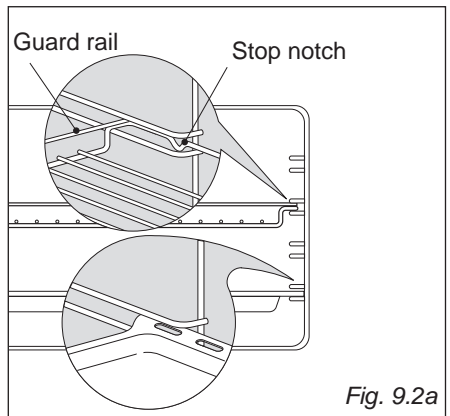

Fig. 9.2a
In the models with catalytic panels supplied, interpose the catalytic panels "A" with the arrow up (fig. 9.2a). **Models with rotisserie:** The catalytic panel with the hole for the rotisserie must be positioned on the right oven wall. **DO NOT INTERPOSE THE CATALYTIC PANEL WITHOUT THE HOLE ON THE RIGHT OVEN WALL.**
- Slide the rack into the runners (fig. 9.2a). The rack must be fitted so that the safety notch, which stops it sliding out, faces the inside of the oven; the guard rail shall be at the back.